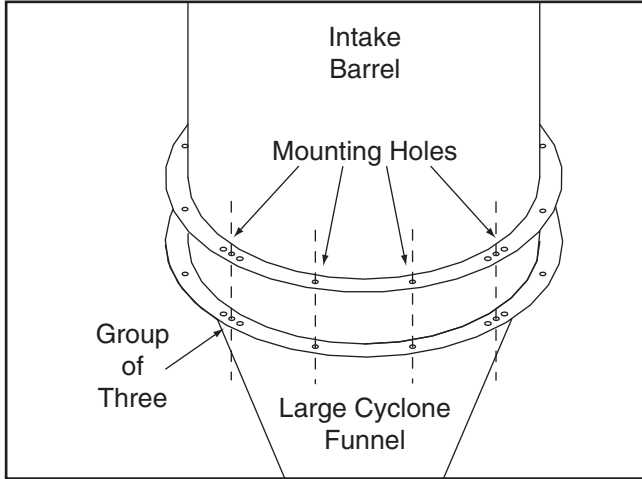

Figure 17. Intake barrel and large cyclone funnel mounting holes aligned.
4. With assistance, place the intake barrel over the large cyclone funnel and align the mounting holes as illustrated in **Figure 17**.
6. Install the four cyclone mounting brackets with (8) $\frac{5}{16}$ "-18 x $1\frac{1}{4}$ " hex bolts, (16) $\frac{5}{16}$ " flat washers, and (8) $\frac{5}{16}$ "-18 hex nuts (see **Figures 17 & 19**).